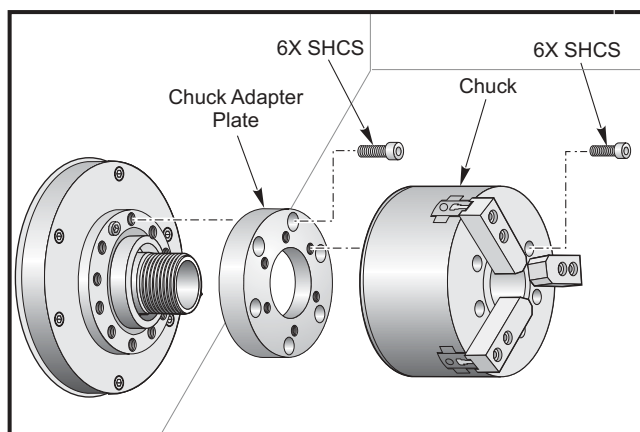

Figure 2
5. **SL-30, SL-40:** Remove the adapter plate. See figure 2.